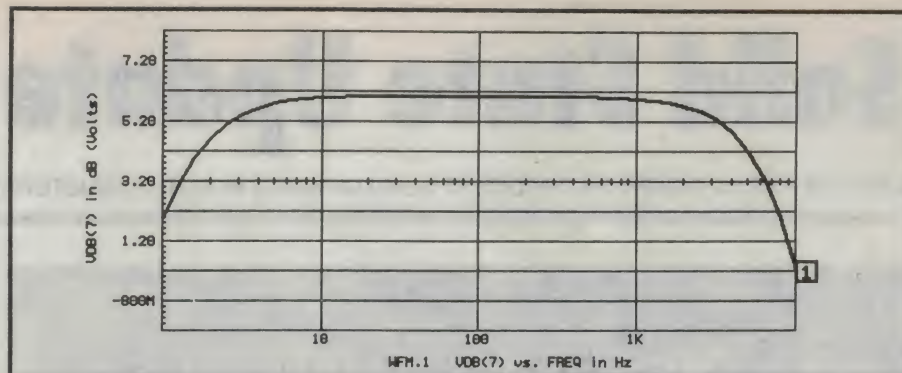

Fig.4: Here's a plot of the low-pass filter's frequency response, as produced by *IntuSCOPE* from the output simulation data from *IsSPICE*.
For example it was fairly easy to get a display or printout of my LP filter's frequency response with a dB scaling, either directly from the data provided by *IsSPICE* in response to the .PRINT VDB(7) statement (shown in Fig.4), or by having *IntuSCOPE*'s inbuilt 'calculator' convert the straight V(7) voltage data into dB. But I still haven't worked out how to get *IntuSCOPE* to shift the 0dB reference level to the curve's plateau, so that you can quickly spot the -3dB points, etc.